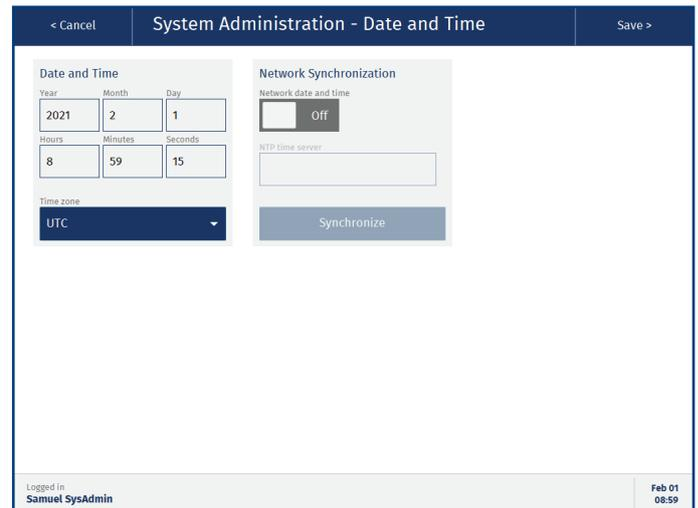

Figure 16. The Date and Time view.
The date and time can be set in the **Date and Time** view (see Figure 16) by users with system administrator access.
3. Enter the address to the time server in the **NTP time server** text box (see Figure 16). Please contact your IT department for more information.